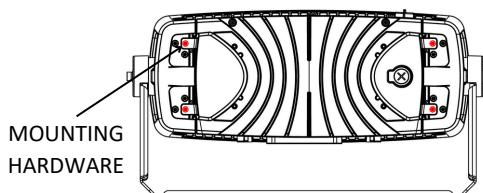

Fig. 16
2. Remove four M6 mounting hardware to free the driver box, refer to Fig. 16.